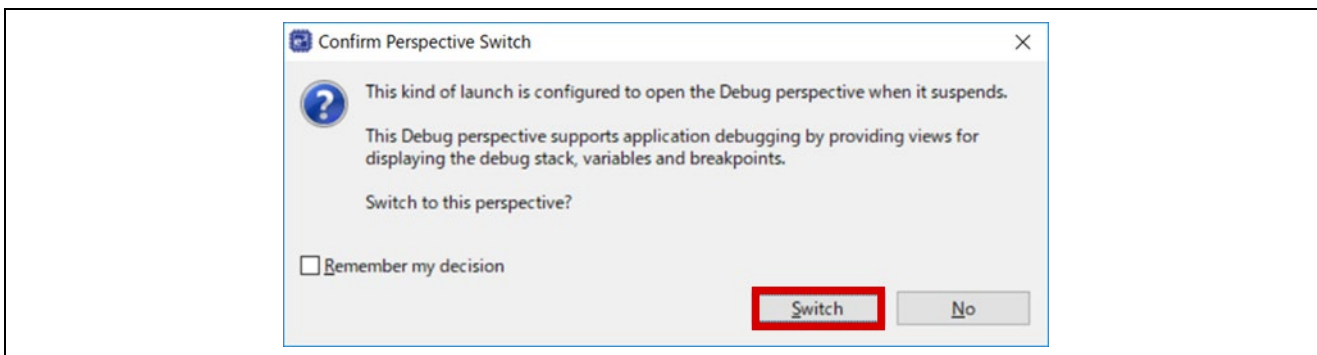

Figure 4-17. Confirm Perspective Switch
- 9. When the debug perspective is opened, Program Counter (PC) should be located at the top of Warm_Reset_S function. Then, you need to press the button indicated by a red arrow in Figure 4-17: